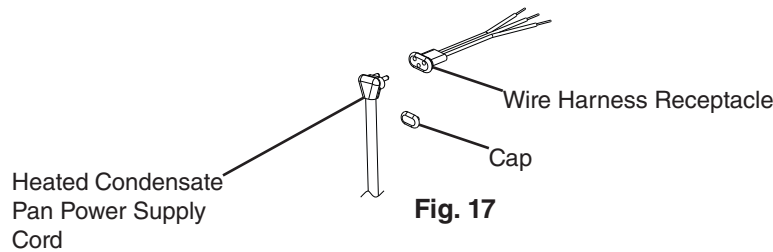

Fig. 17
15) Remove the wire harness receptacle cap, then plug the heated condensate pan power cord into the wire harness receptacle. See Fig. 17. Secure the heated condensate pan power cord to the appliance main power cord with a nylon tie.